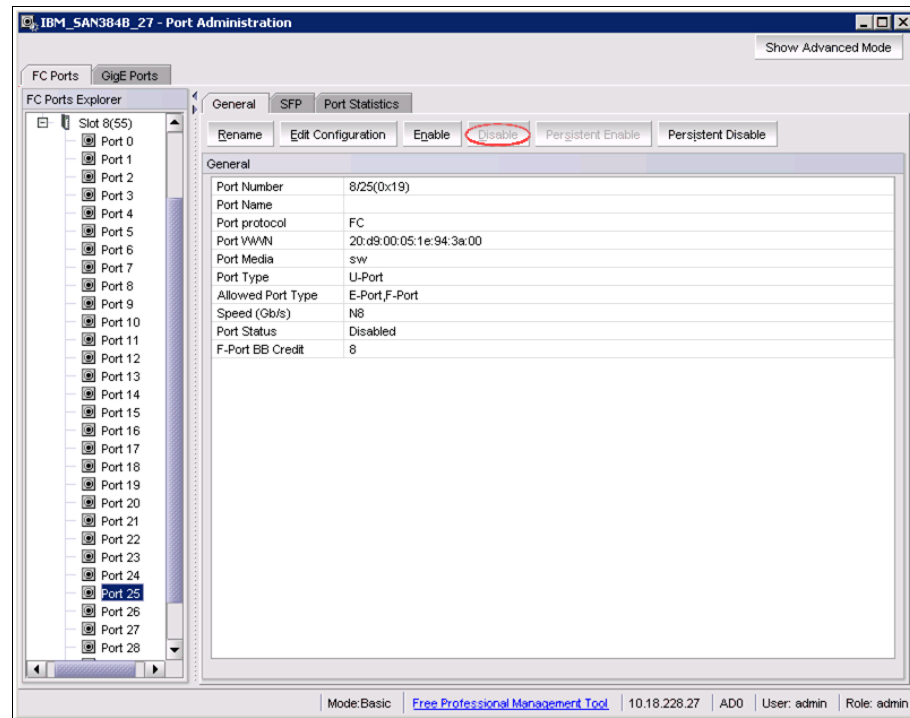

Figure 9-6 Disabling port 8/25 in the backbone
1. Disable the port on the backbone switch, as shown in Figure 9-6. In our scenario, we also disabled also port 8/26.